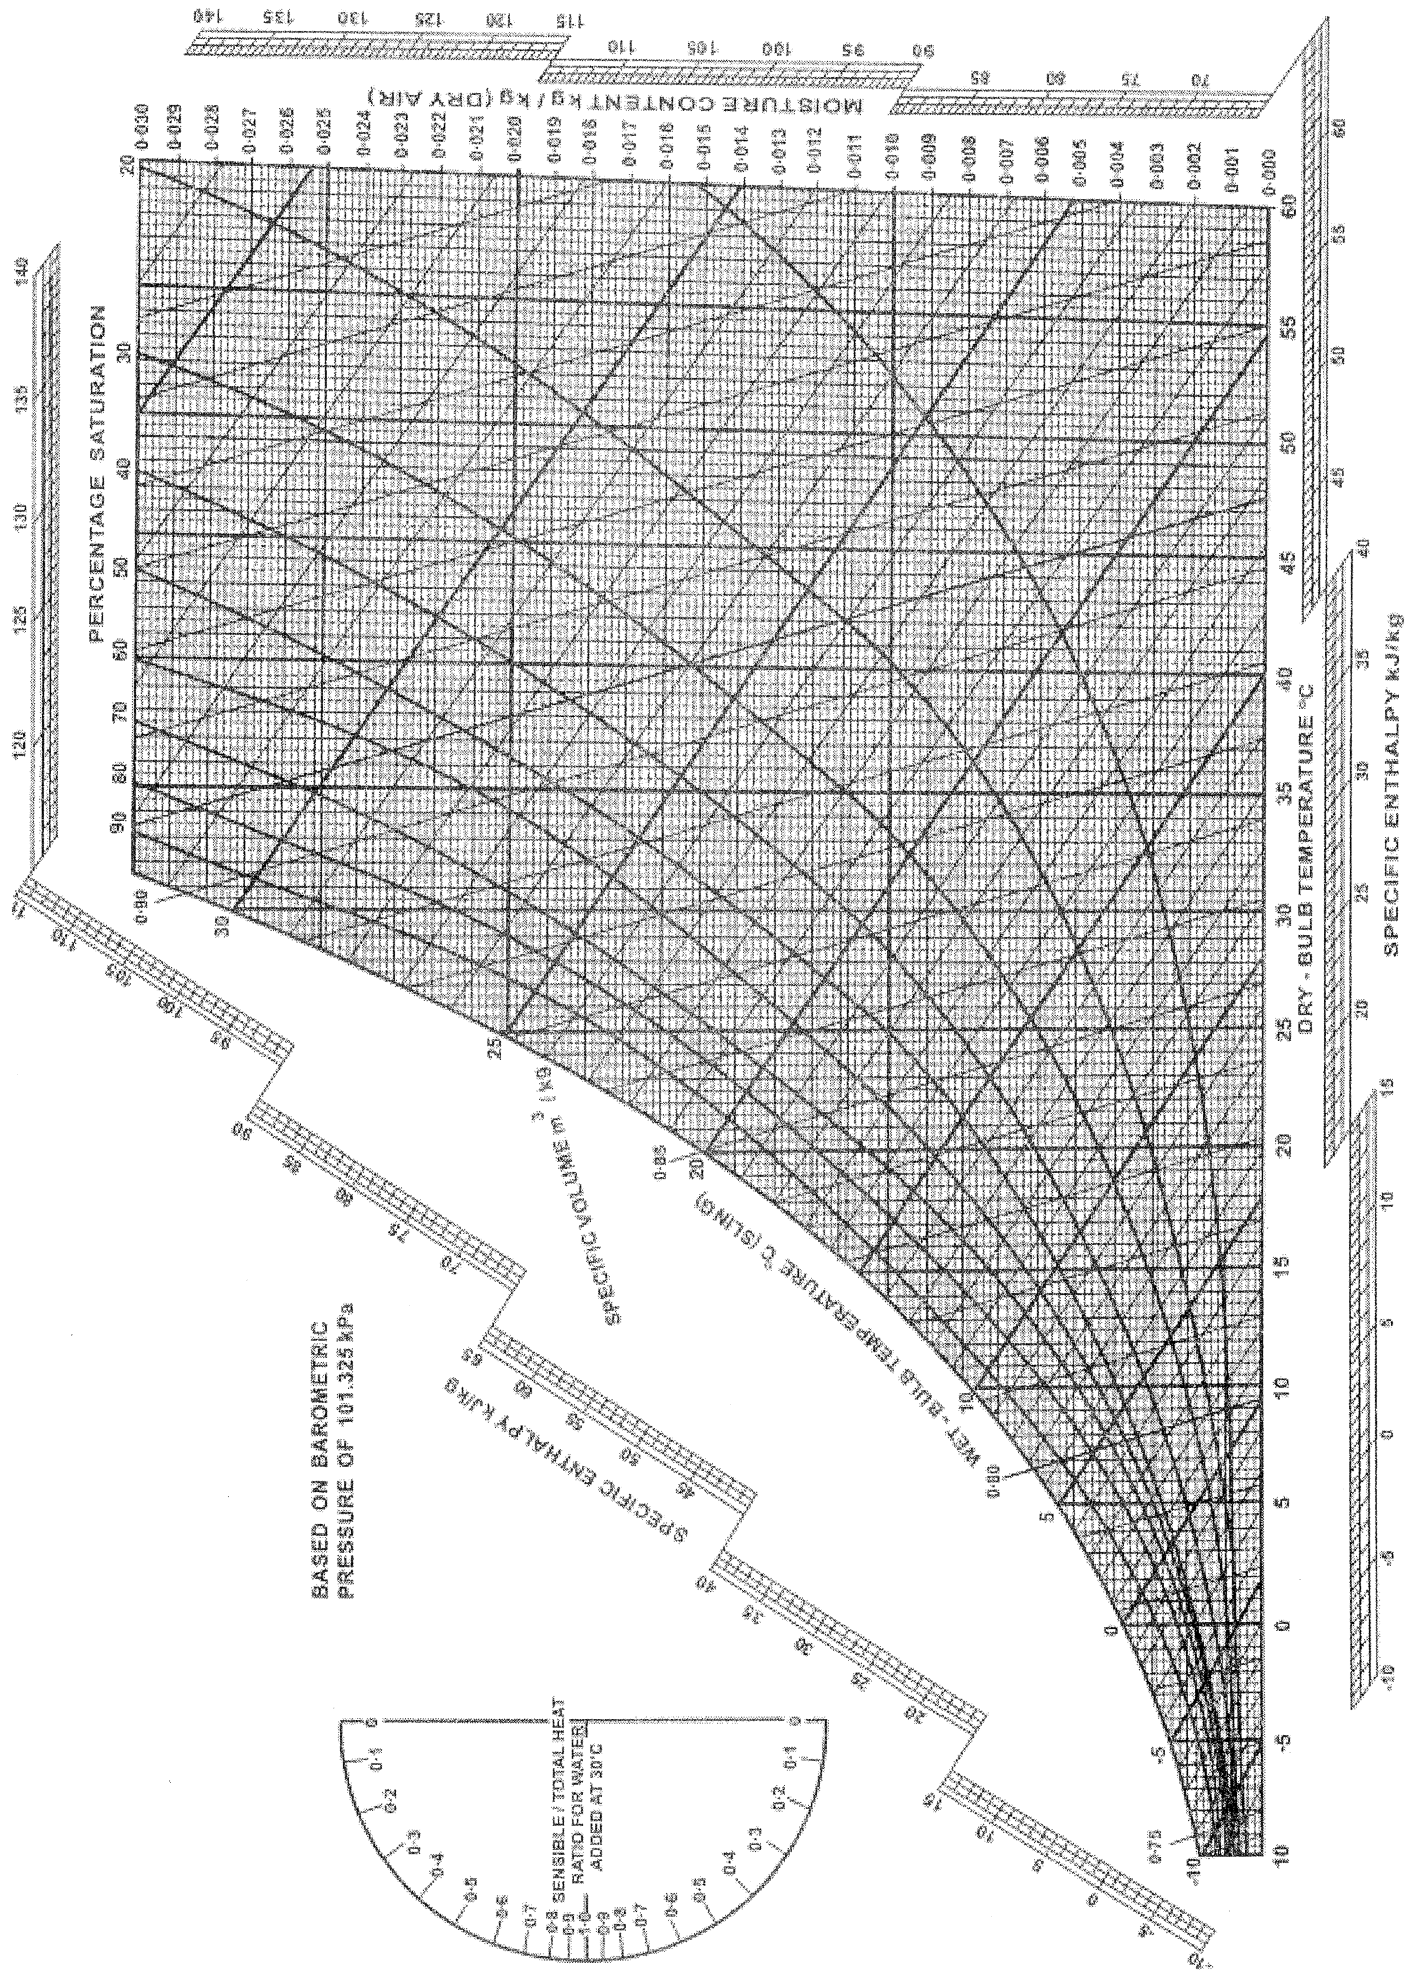

Figure Q5
- c) Calculated sensible and latent heat gains of a conference hall are 400 kW and 120 kW, respectively. Central air conditioning system has been proposed to maintain the relative humidity (RH) at 50 % and temperature range between 18 °C to 25 °C of the hall. Fresh air of 10% by mass is taken from outside (RH 70% and temperature of 28°C). Supply air quantity for the space is 60kg/s at 80% RH. Calculate followings. Refer the Figure Q5 for Psychrometric chart.